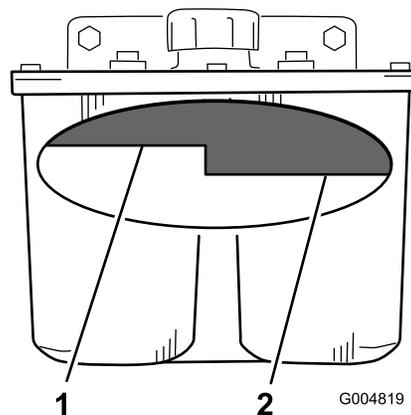

Figure 83
3. Clean the area around the filler neck of the hydraulic tank (Figure 83).
4. Remove the cap from the filler neck and look inside to check if there is fluid in the reservoir (Figure 83).
**Note:** The fluid level should be to the top of the hot level of the baffle, when the fluid is hot (Figure 83).